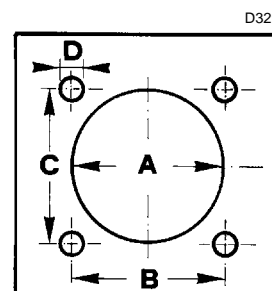

Fig. 10
Drill the combustion chamber locking plate as shown in Fig. 10. The position of the threaded holes can be marked using the thermal screen supplied with the burner.
- Remove the screws (2) from the two slide bars (3).
- Remove the screws (1) that secure the blast tube (6) to the burner (4).
Fasten the blast tube (6) to the boiler plate (Fig. 10 on page 15), inserting the gasket provided (5). Use the 4 screws provided after having protected the thread with antiscrudding products (high-temperature grease, compounds, graphite). The burner-boiler seal must be airtight.